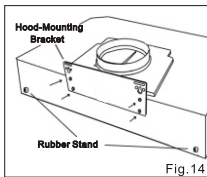

Fig.14
- Attach the hood - mounting bracket to the back of the hood with four (3/16" x 3/8" ) screws (included) (Fig.14)